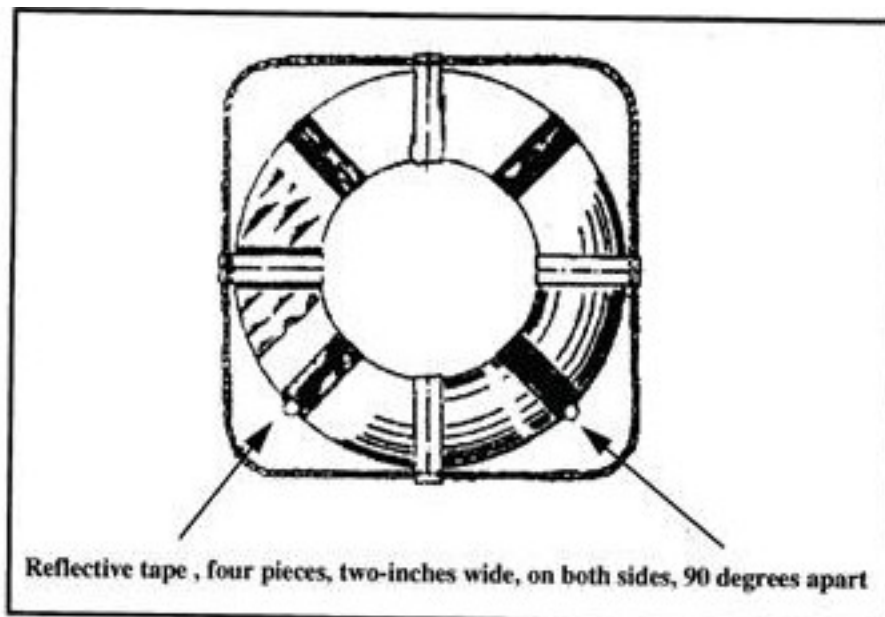

Figure 551-8ST-3028_06
7. Conduct maintenance on floating distress markers (Figure 551-8ST-3028_07).